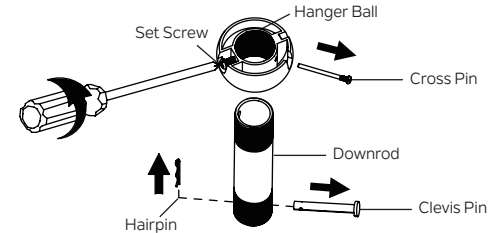

Fig. 6
Step 2. Remove the hairpin and clevis pin from the downrod assembly, retain for later use. Remove the hanger ball from the downrod assembly by loosening set screw, removing the cross pin, and sliding ball of the rod. (Fig. 6)